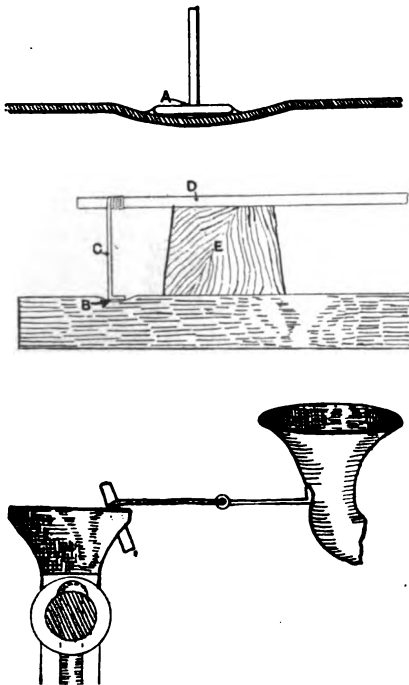

FIG. 1.—HOW DENTS ARE REMOVED
If the tank of a radiator or similar square object is indented, a loop should be made in a piece of stout brass or bright steel wire, bent at right angles, as at A in Fig. 1, and soldered to the lowest part of the dent. A larger loop should then be made in the other end of the wire, and with the aid of a lever (D) and a block of wood (E) resting on the
Dents in head lamps and other small articles can be taken out in a similar manner as above, though in place of the lever a strong cord should be attached to the wire loop and its free end fastened to a vise or any convenient anchorage. In Fig. 1 (P. 155), a horn is shown under treatment. The horn is grasped in the hands, and a few gentle jerks will remove the dent. The wire loop in both these cases can easily be re-